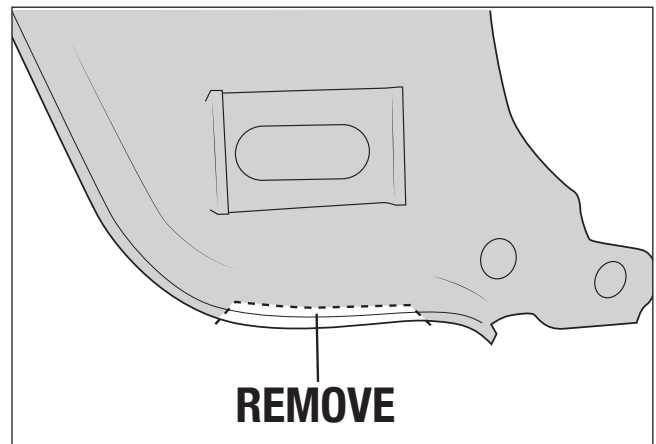

Figure 3
- B. Rear-most brackets for cam bolt clearance (fig. 3).